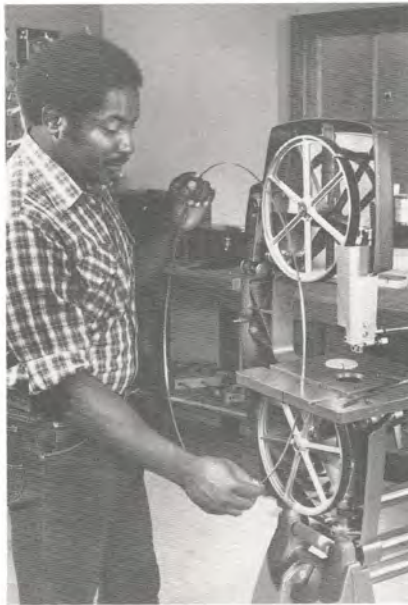

Figure 3. Slide the old blade off the wheels and out through the slot in the table.
7. **Slide the old blade off** the wheels and out through the slot in the table. (See Figure 3.) You'll have to flex the blade slightly to get it around the blade guard.